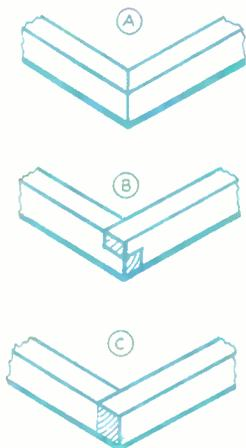

Fig. 1
$8\frac{1}{2}$ ins. long and two pieces $2\frac{7}{8}$ ins. long. The neatest joint to use at the corners is the mitred joint illustrated at Fig. 1(A). This can be accurately made by using a mitre block. Alternatively, half-lapped joints (B) or even butt joints (C) may be used if desired. If the butt joint is used then the two ends must be shortened to $2\frac{1}{2}$ ins.